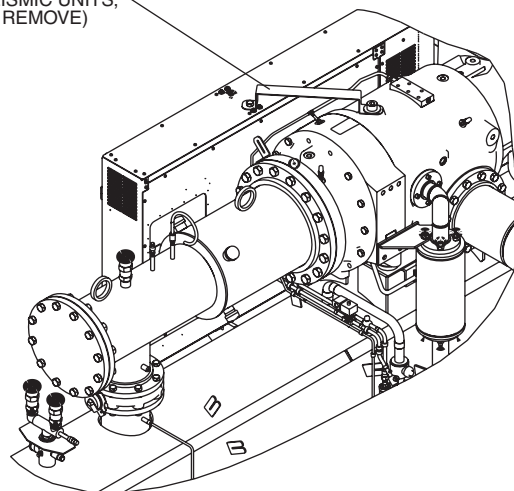

Fig. 23 — VFD Shipping Bracket (Unit with R Compressor Shown)
2. Remove the shipping bracket between the VFD and the compressor if it is still in place. See Fig. 23.